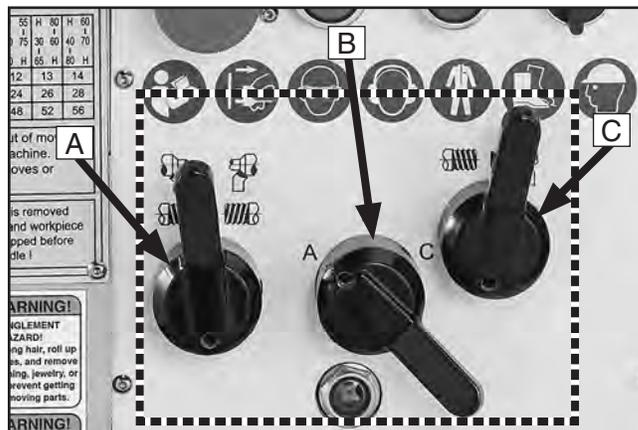

Figure 62. Power feed controls on the headstock.
Use **Figures 62–66** and the following descriptions to understand the power feed controls.
- A. Feed Direction Selector:** Selects direction of carriage travel for power feed relative to the rotation direction of spindle. When lever is positioned as shown in **Figure 62**, carriage will move left (toward the spindle), or cross feed will travel toward rear of lathe when spindle is rotating counterclockwise (or toward front of lathe). When lever is positioned in opposite direction, carriage will move right (toward tailstock), or cross feed will travel toward front of lathe when spindle is rotating clockwise (or toward the rear of lathe).